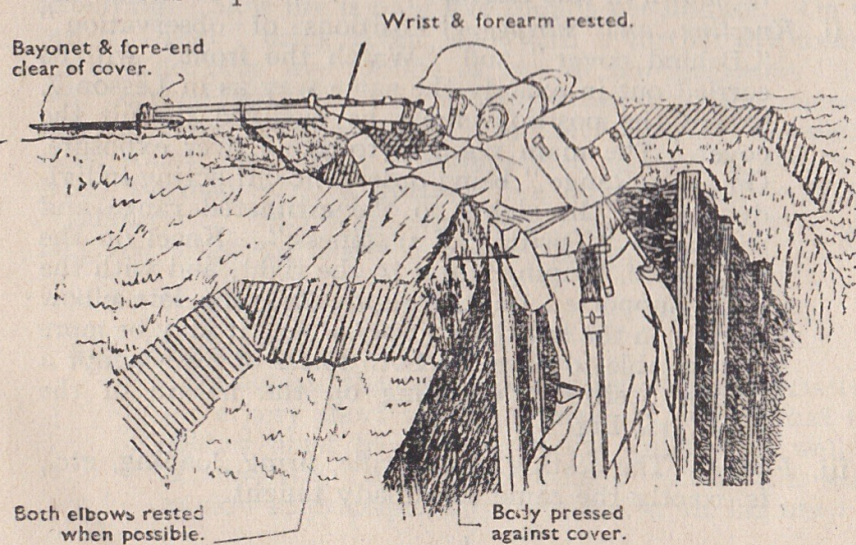

Fig. 12
- i. *Explain and demonstrate.*—"Positions of observation" and "Behind cover" and the actions of "Watch the front" are the same as for kneeling. Position of Readiness as for kneeling with probably slight differences such as both elbows rested, as in a trench. The body pressed against the cover if possible (see Fig. 12).